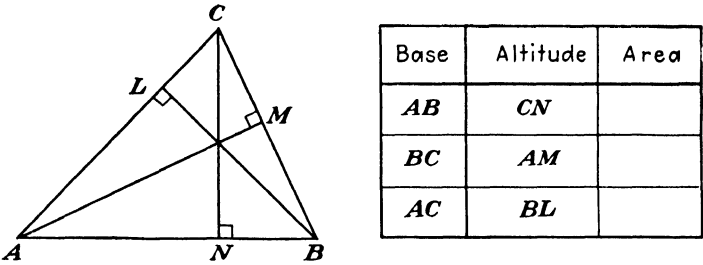

Fig. 83.
10. Measure to the nearest 64th and calculate the area of the triangle in Fig. 83 in the three different ways shown